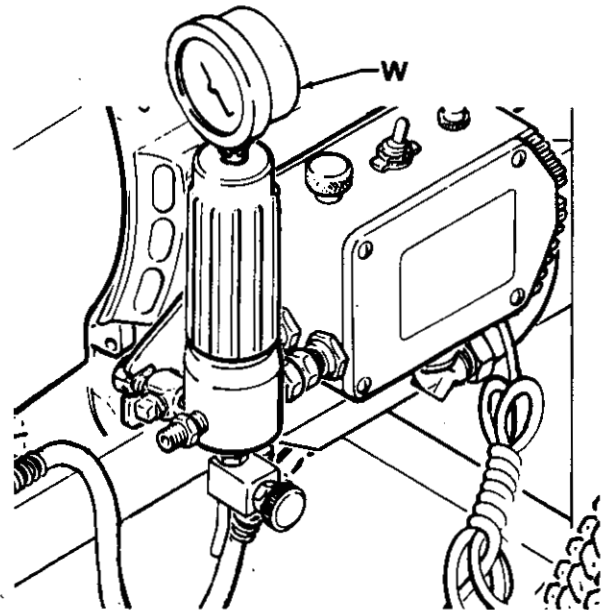
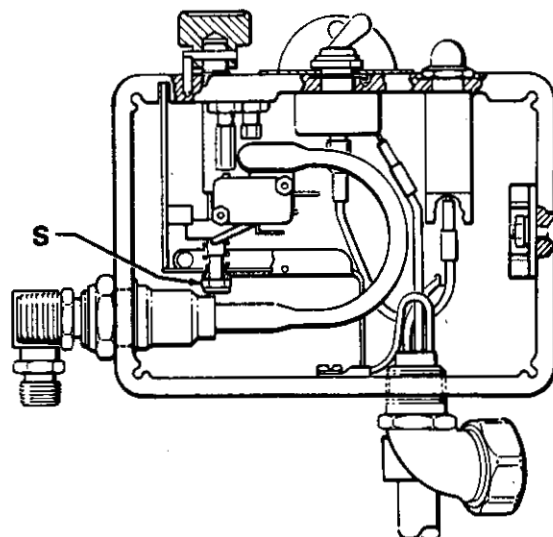

Fig 21
Fig 22
**Calibration Setup (See Fig 21 and Fig 22)**
3. Remove the plug from the top of the fluid filter, and install the test gauge (W).
6. Use a 3/8" ignition wrench to turn the pressure adjustment nut (S) counterclockwise about two full turns. See Fig 22.
*If it does start*, shut the sprayer switch OFF, disengage the gun safety latch, trigger the gun into a grounded waste container until pressure is relieved. Engage the gun safety latch. Turn the pressure adjustment nut (S) a little further counterclockwise. Turn the sprayer on to be sure it *does not* start.
8. *Slowly* turn the pressure control knob clockwise to the maximum setting and hold it there. Use a 3/8" ignition wrench to slowly turn the pressure adjustment nut (S) clockwise until the test gauge reads **EXACTLY 3000 psi (210 bar)**.